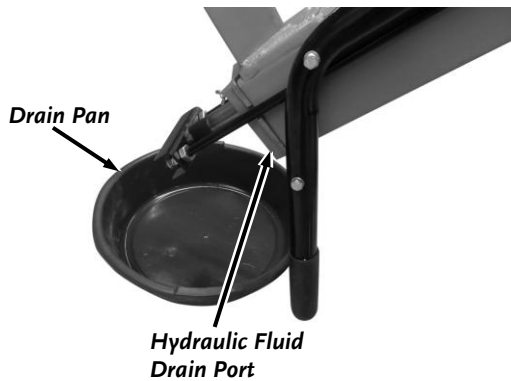

Figure 14
3. Tip the Splitter down onto the Legs as you drain the Fluid into an approved Container (1 gallon or more capacity) and continue tipping the machine until the Tank is empty (**Figure 14**).